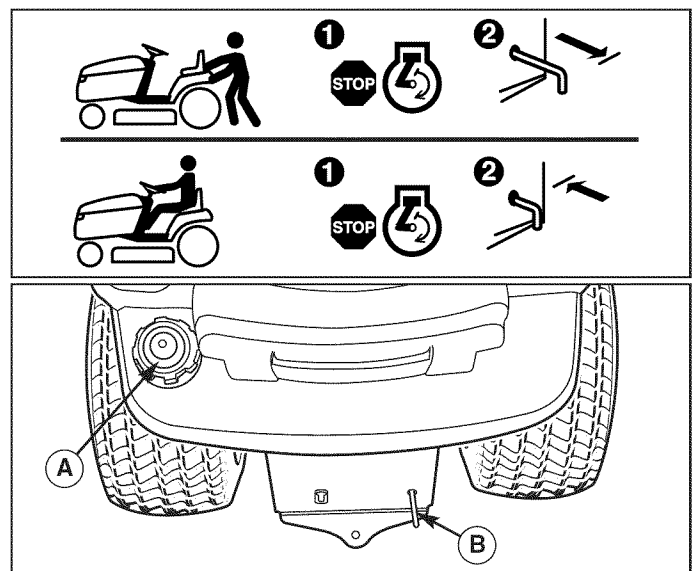

Figure 3. Transmission Release Lever & Fuel Tank
1. Remove the fuel cap (A, Figure 3).
2. Pull the transmission release (B, Figure 3) back approximately 2-3/8" (6 cm) to lock into released position.